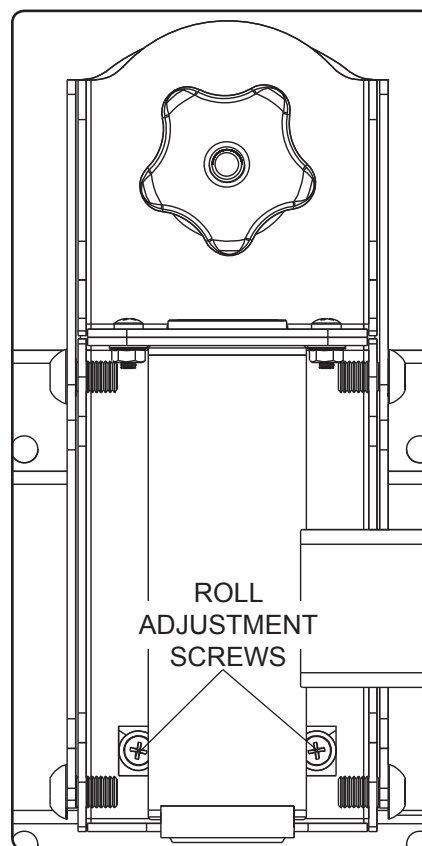

fig. 9.1
- 9 Depending on the specific size & weight of the plasma, articulating swing arm may be angled at different positions, causing plasma to appear to lean sideways at different articulating positions. Tilt-roll assembly (B) allows plasma to be manually adjusted, so plasma can be horizontal at all positions. To adjust, gently rotate plasma by hand to desired position.
- 9-1 If it is too difficult to adjust roll of plasma, loosen screws shown in figure 9.1 using a phillips screwdriver.